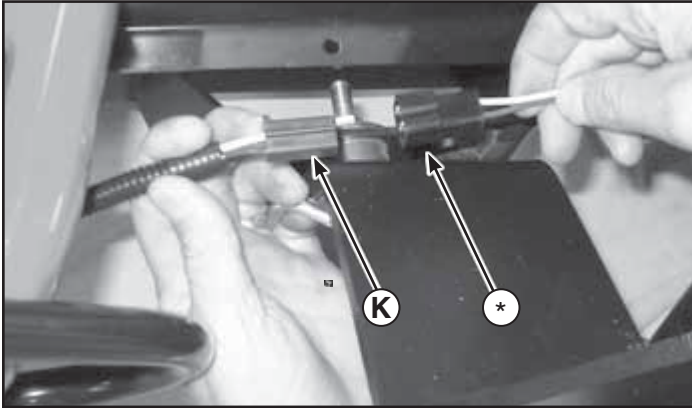

Figure 28
4. Connect chute rotation wire harness (*, Figure 28) to the 26" extension wire harness (K).